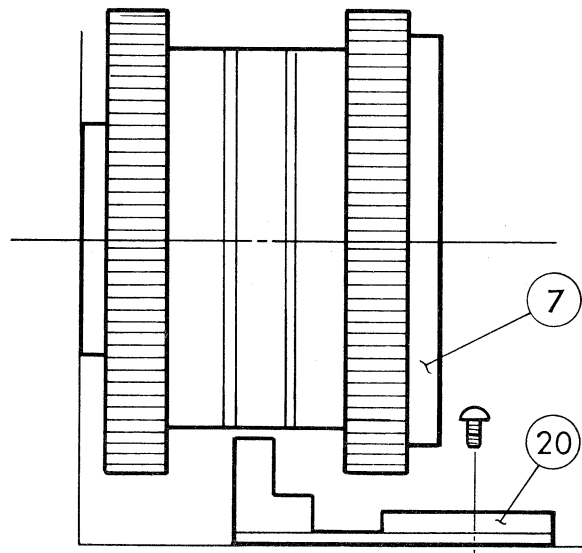

Fig. 11
2. Take care so that the glass and lens of ①, ⑤ and ⑬ may not have stain, dust, etc. on them.
4. See to it that ⑮ and ⑱ carry out picture change operation and do have the engagement of approximately 3 mm both in vertical and lateral positions. Adjust by shifting the position of ⑱ if the engagement is excessively large and deviated. Furthermore, install ⑮ to a position, so that ⑥ may not touch ⑱ and ⑳, even though the lever picture change has normal function. Adjust the backlash by loosening ㉔.
5. Install ㉓ to the position just under ⑬ in order to support the ⑬ from below. See to it that the front and rear directions of ㉓ are as shown in Fig. 11, with the lens at the front. After installation, make sure that the functions of iris ring and focus ring are not adversely affected.